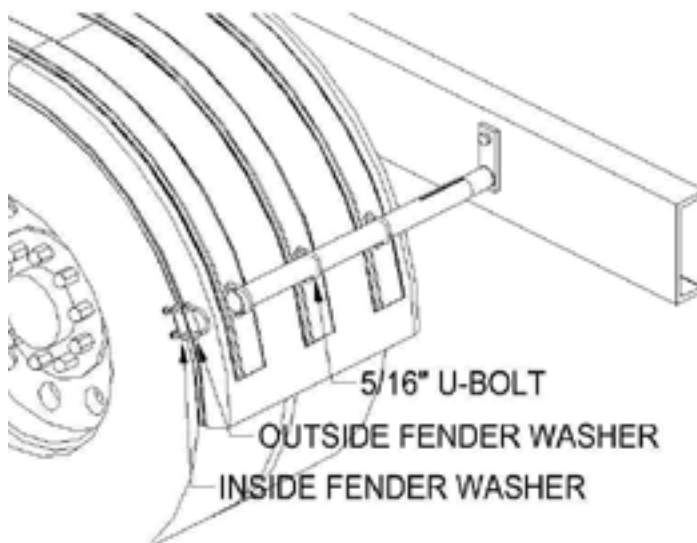

Figure 6
- A. Drill six 5/16" holes thru fender using the holes in fender washers as a guide. Install the 5/16" x 2" x 3.5" U-bolts thru the bracket and into the fender. Use two fender washers per u-bolt. Place one on the inside and outside of fender. Use 3 U-bolts per fender bracket tube. Do not over tighten U-bolts. Hand tightening of bolts is suggested. Make sure the fenders are square and aligned. Twists or bows in the fender will fatigue the material over time. See Figure 6.